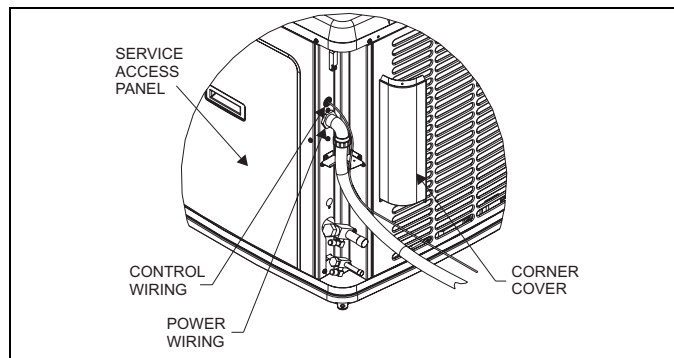

FIGURE 5: Typical Field Wiring
- Remove the screws at the bottom of the corner cover. Slide corner cover down and remove from unit. See Figure 5.
- Remove the service access panel to gain access to the unit wiring. Route wires from disconnect through power wiring opening provided and into the unit control box as shown in Figure 5.
- Route low voltage wiring into bottom of control box as shown in Figure 5. Make low voltage wiring connections inside the junction box per Figures 7-13.